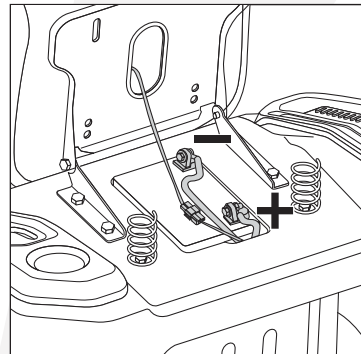

Fig. 32
2. Disconnect the NEGATIVE (-) cables from the battery first. (Fig. 32)